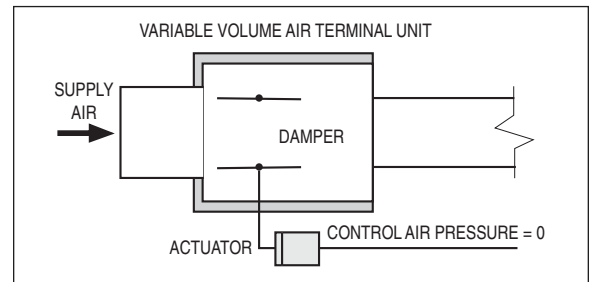

Figure 20. Normally Open Damper
**Normally Open** indicates the fail safe position of the damper in a typical pneumatic system. When the control air pressure is removed or fails, the damper is opened by the actuator spring. Control air pressure is required to oppose the spring and close the damper or valve. (Figure 20).